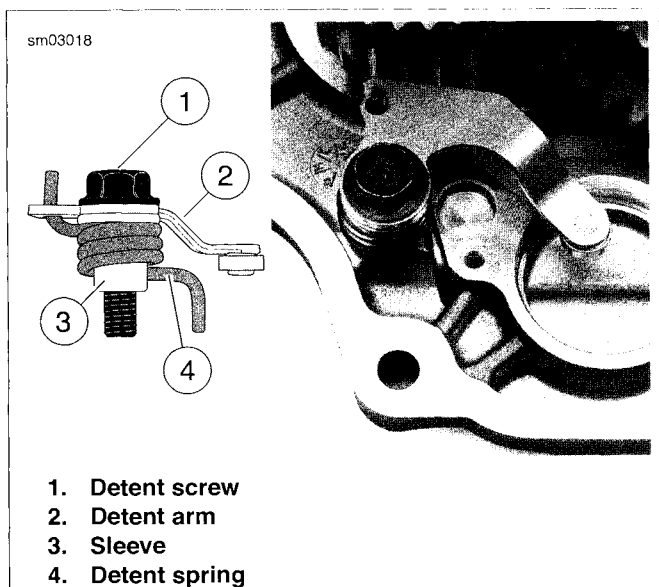

Figure 6-27. Detent Assembly
- a. See Figure 6-27. Clean detent screw mounting hole in transmission side door.